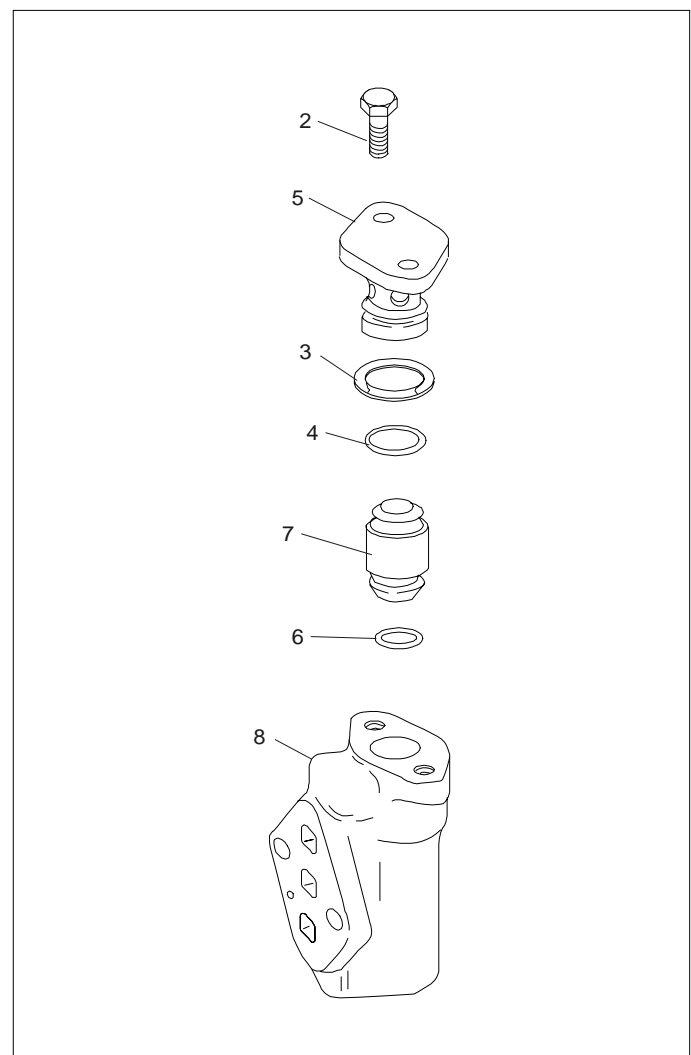

Figure 2 - Exploded View
7.0 MAINTENANCE PROCEDURES (Figure 2)
⚠ 7.3 ASSEMBLY (Figure 2)